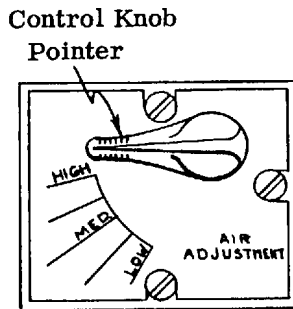
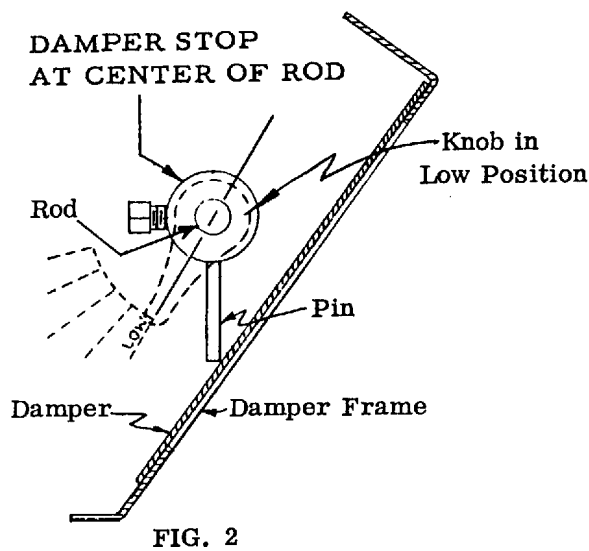

FIG. 1
FIG. 2
Normally, set the air pressure control knob horizontally in the position illustrated, (Fig. 1).
2. Place the pointer of the control knob at the low position (Fig. 2), with damper fully closed, push the pin on the damper stop (in center of rod) down until it hits the damper, tighten set screw securely.
1. Place bag in position on buck, Fig. 1. Center top edge of Pants Topper bag with center of waist clamp (A). Install retainer (B) over drawstring sheath (X), Fig. 2 or 2A. Tighten three sheet metal screws. Open zipper (C) Fig. 1.
4. Align Pants Topper Bag (G) on buck (Fig. 1). Slip drawstring (M) over spool (J) Fig. 3. Pull drawstrings tight toward top of buck so that drawstring sheath (K) is equally distributed around outer edges of perforated metal buck (H). Holding strings tight, tie-off to eyelet (L).